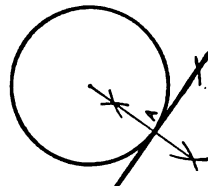

Fig. 55.
**Problem 7.** To find where a tangent touches a given circle. (Fig. 55). Draw a radius at right angle to the tangent either with a triangle, or geometrically as shown. Where the two straight lines intersect is the point of contact, A. **Note:**—Any line perpendicular to the outer end of a radius is a tangent.